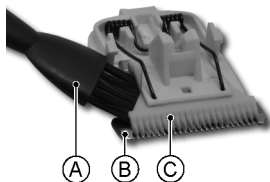

Figure 6: Cleaning the cutters
2. Use the cleaning brush supplied (Figure 6, A) to clean the blades.
3. Use the cleaning brush (Figure 6, A) to remove hair from the gaps between the fixed cutters (Figure 6, B) and the mobile cutters (Figure 6, C).